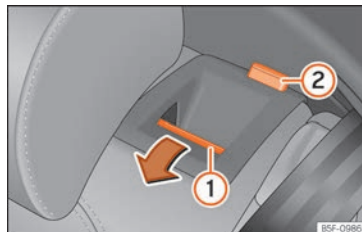

Fig. 112 Rear seat: folding the backrest.
- Press the unlock button »» Fig. 112 ① forwards and at the same time fold the backrest